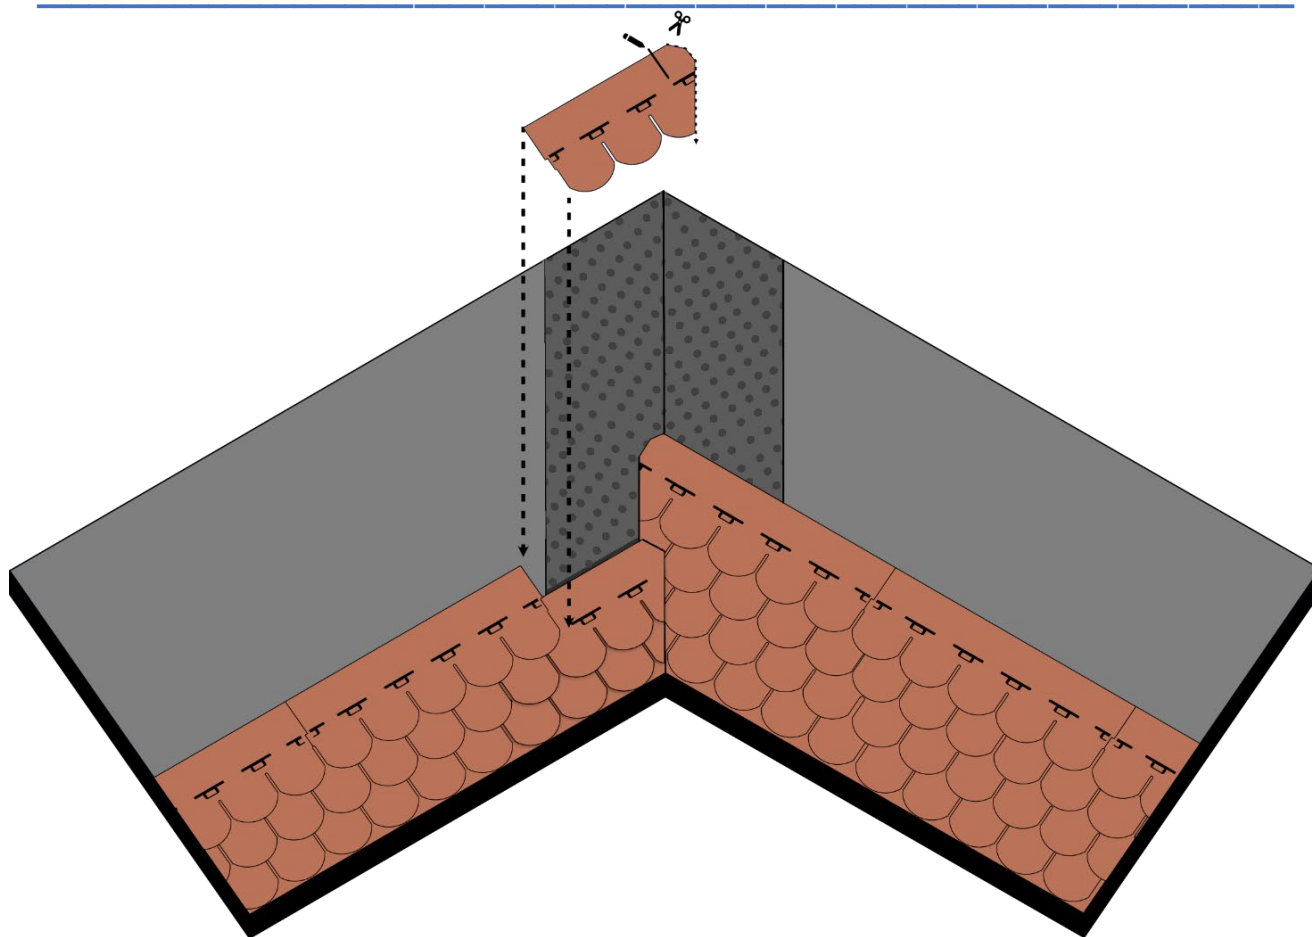

Fig. 21 - Shingles installation by torch at the valley
- Once the installation of the shingles of the entire pitch and for the entire length of the watershed has been completed, move to the adjacent pitch. Start installing the shingles from the starting row and continue in successive rows. Fix them with the flame of a torch, always heating the membrane and not the shingle element. The last shingle in each row should reach at least the valley line. Once the installation of the shingles is completed also for the second pitch, mark the axis of the valley. Then, proceed to cut the shingles of the second pitch following the valley line, as for the nail installation Cross-cut the top edge of the shingle to the valley, so as to convey the descending water along the axis of the valley. Lift the shingles of the second pitch at the valley line, one at a time and apply Bitustick at the bottom, for their final bonding - Fig. 21.